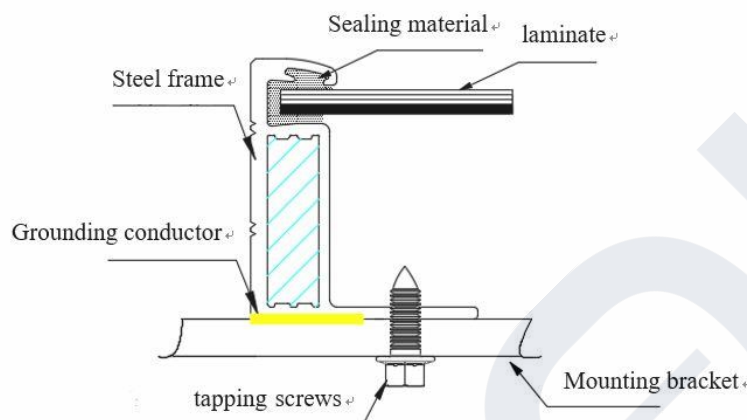

Fig.11.2 ST 4.8 pan head tapping screw grounding
- On a grounding hole with a diameter of $\phi 4$ mm, use a separate grounding wire and related accessories to connect the frame and connect the grounding wire to the ground. M4 x 12mm ground bolts with M4 nuts, star washers and plain washers are recommended for the aluminum frame, M5 pan head screws or ST 4.8 pan head tapping screws are recommended for high-strength alloy steel frames, see fig.11.2, this ensures that the modules are firmly grounded. You can find the corresponding product drawing in module datasheet to know the detailed number, size and position of the grounding holes. The torque applied to ground fixation is 4N· m~8N ·m.